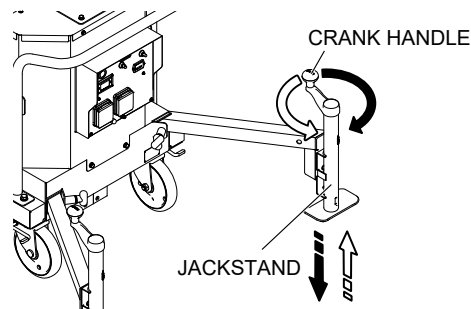

Figure 8. Positioning Jackstands
4. After extending all outriggers, rotate all cart jackstands into the foot-down position (Figure 8).